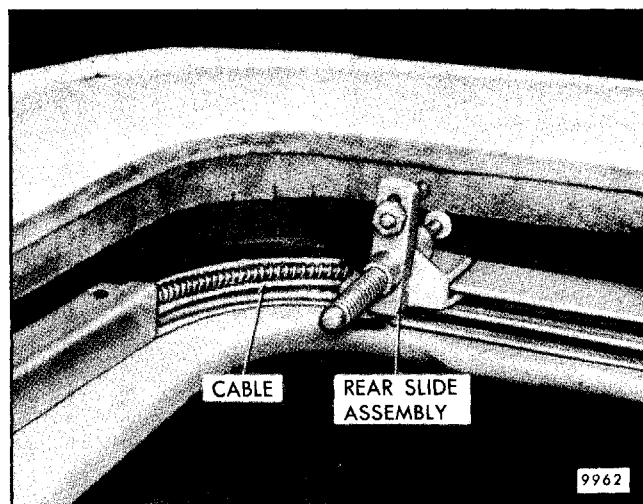

Fig. 8-118-Drive Cable and Slide Assembly Pulled Forward - E and K Styles
5. Pull rear slide and drive cable assembly forward to remove from corner elbow guide location (Fig. 8-118).